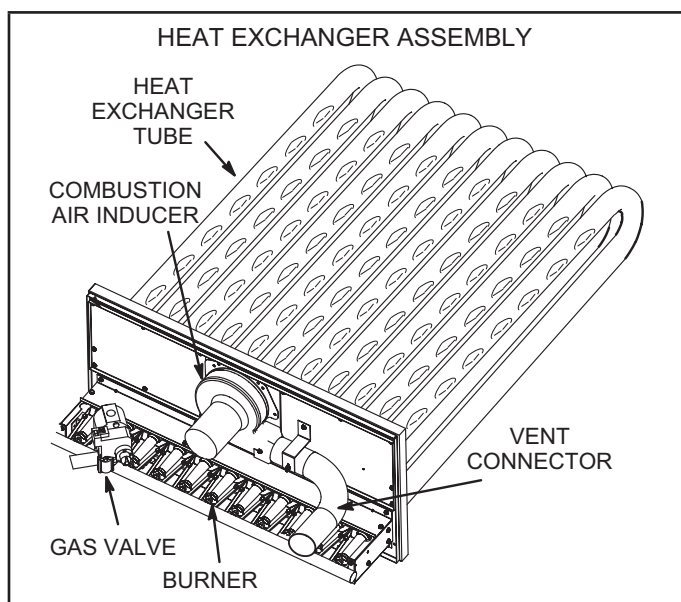

FIGURE 49
- 3 - Remove and retain screws securing combustion air inducer to flue box. Remove and retain two screws from bracket supporting vent connector. See FIGURE 49.